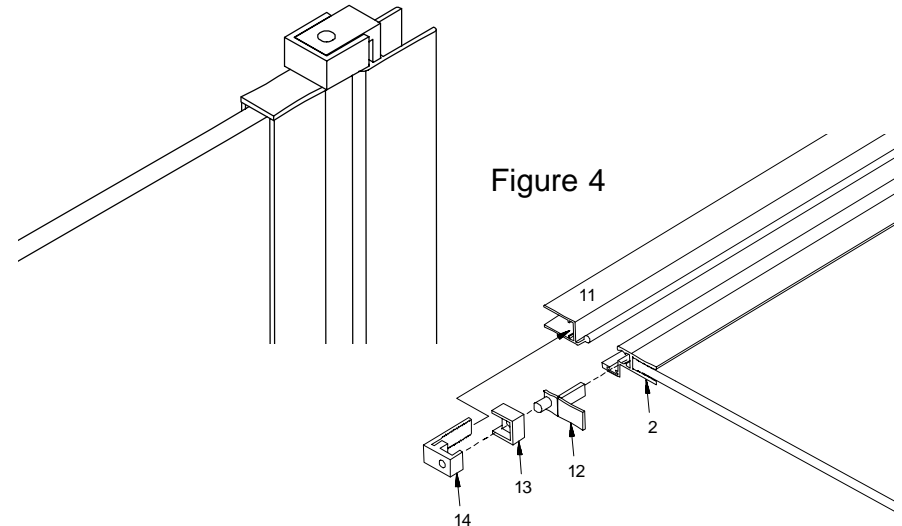

Figure 4
5. Set hinge bushing (13) in place over the hinge clip (14) and push the hinge pin (12) into the hinge bushing. Drive the clip with the bushing and pin into the bottom end of the hinge jamb (See Figure 4). Slip the hinge jamb sleeve (10) over ball of hinge jamb. Place the hinge jamb with sleeve, clip, bushings and pin in place inside the hinge rail. (Screw holes in hinge jamb to the inside of door.) Slip the second pin in place in the hinge rail at the top of the door, place the bushing over the clip and drive the clip into the jamb securing the pin to the bushing.